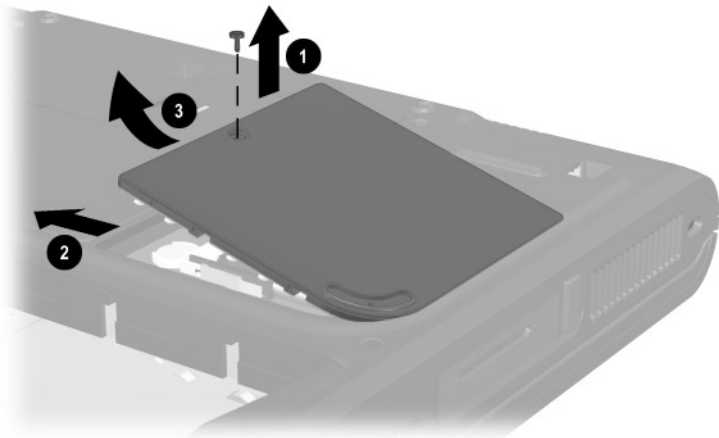

Figure 5-12. Removing the Mini PCI Communications Slot Cover
3. Remove the PM2.5 × 4.0 screw ❶ that secures the mini PCI compartment cover to the base enclosure (Figure 5-12).
4. Slide the cover to the left ❷.
5. Lift the left edge of the cover and swing it to the right ❸.